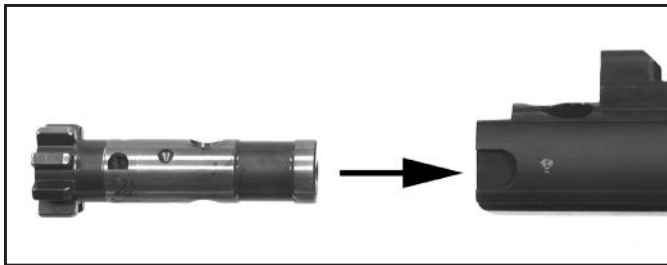

Fig. 60 – Bolt Carrier reassembly
- a. Slide the bolt head into the bolt carrier until the circular mounting surface for the cam pin on the bolt heads aligns with the front of the raceway on the bolt head carrier. Pointed down range, the extractor should be on the right hand side of the bolt carrier and ejectors should be on the left (Fig. 60).